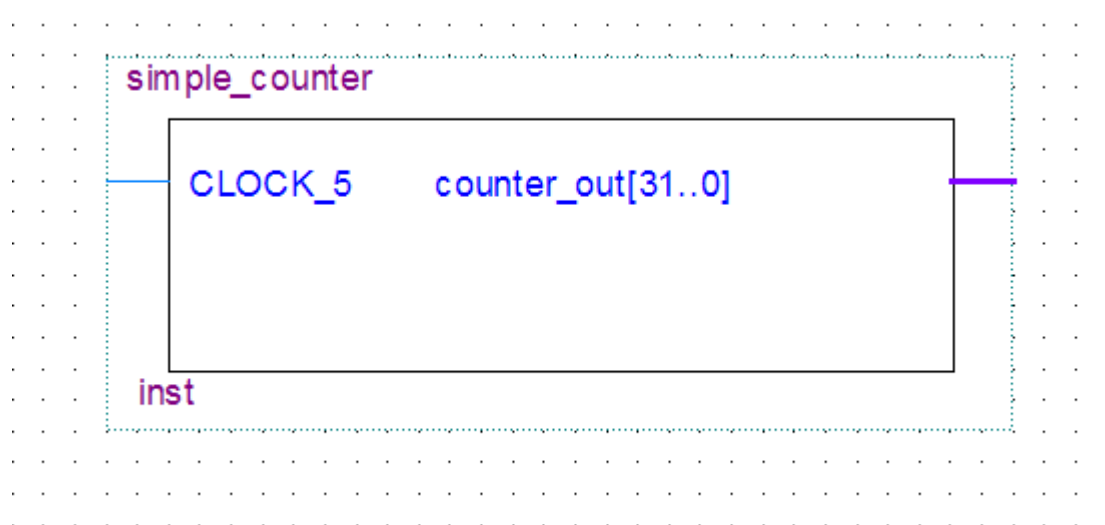

Figure 6-18 Placing the simple\_counter symbol
13. Move the cursor to the BDF grid; the symbol image moves with the cursor. Click to place the simple\_counter symbol onto the BDF. You can move the block after placing it by simply clicking and dragging it to where you want it and releasing the mouse button to place it. See Figure 6-18.